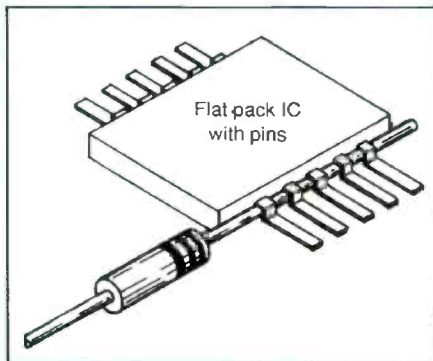

Figure 1. Passing a heavy resistor or capacitor lead under the pins on one side of the IC package will allow you to cut the leads without damaging the PC board.
1. Pass a heavy resistor or capacitor lead under the pins on one side of the IC package (Figure 1).